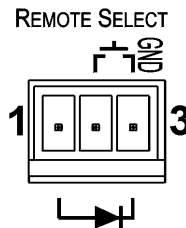

Figure 5: REMOTE SELECT Switch and LED Wiring
Figure 5 illustrates the connections from the terminal block to the switch and LED.
**To connect a remote selection switch and LED as illustrated in the example in Figure 5:**